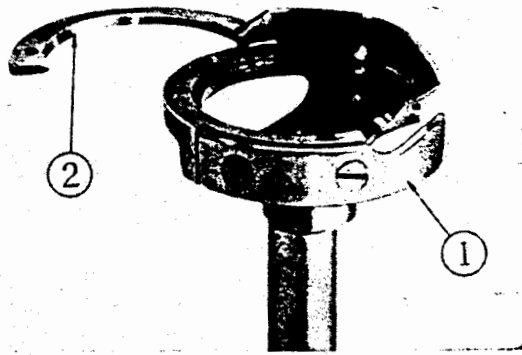

Fig. 21
The needle guide (Fig. 21 ①) at the bottom of the sewing hook prevents the blade tip from any damages which might occur when the needle, upon piercing the cloth, might bend itself and hit the blade point of the sewing hook.